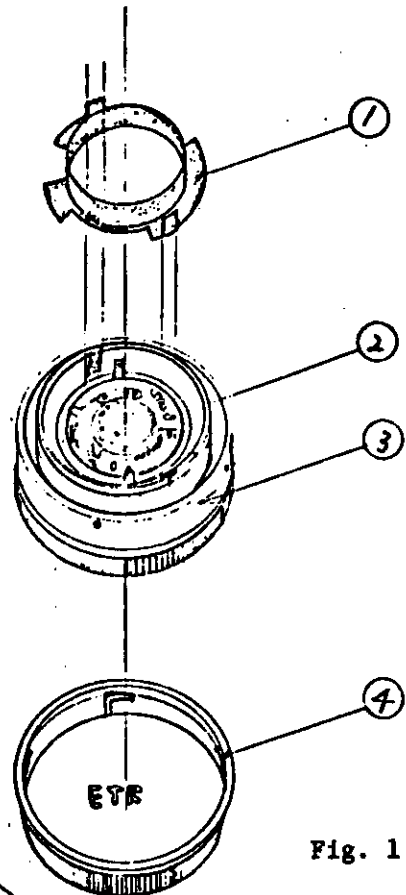
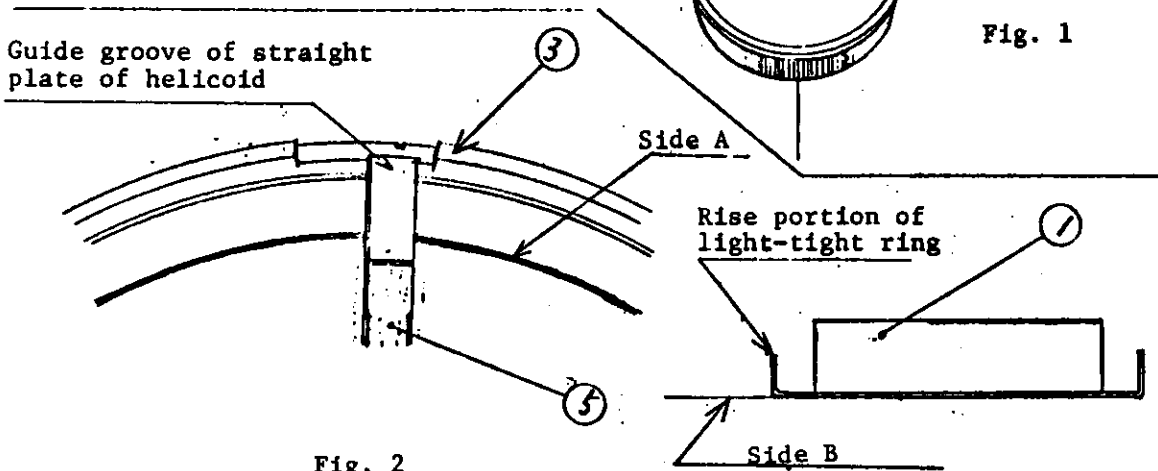

Fig. 1
Fig. 2
Install the light-tight ring (1) on the helicoid with shutter installed. (3) As shown in Fig. 2, have the rise portion of the light-tight ring slide into the guide groove of the helicoid's straight plate and set the ring so as to have its side B hit side A of the helicoid and those contacted surface should be adhered to each other with adhesive (bond). Their direction must be as shown in Fig. 1, and a rear cap (4) should be applied to protect the contact piece and insulating plate set others.